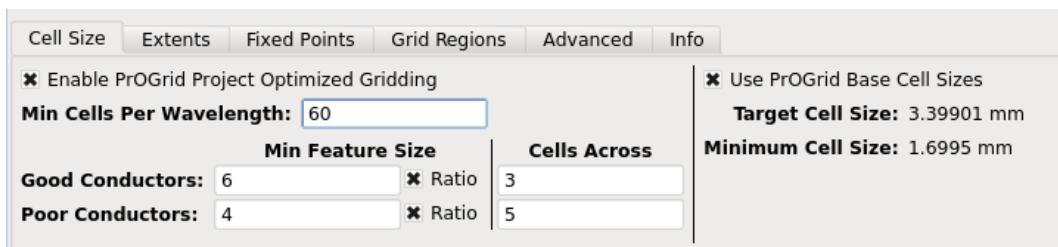

Figure 6.17: Defining cell size on the Grid Editor
- On the CELL SIZE tab (Figure 6.17), set MIN CELLS PER WAVELENGTH to “60”. This will increase the grid resolution (improving accuracy) without significantly increasing the amount of memory or runtime required for the simulation.